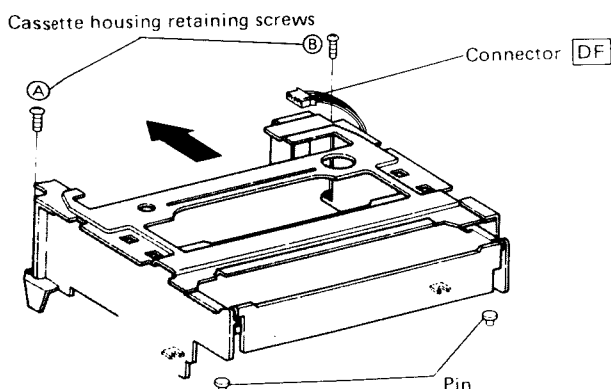

Fig. 3-3
- 5) Disconnect connector **DF**, as shown in Fig. 3-3.
- 7) Remove the two screws (Ⓐ and Ⓑ) retaining the cassette housing as shown in Fig. 3-3.
- 1) Set the positioning U-holes at the right and left front of the cassette housing side onto the pins at the front side of the main transport plate, refer to Fig. 3-3, then slide the cassette housing inside to the point where the holes for the housing screws are matched to the screw holes on the main plate.